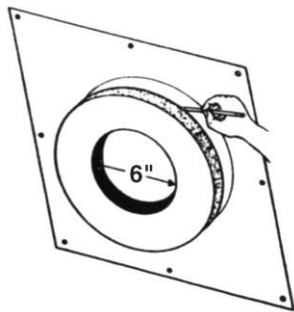

Figure 5: Thimble Length Adjustment
4. Insert the (thick wall) Thimble into the mounted Metal Base. Position Thimble firmly against chimney. The Thimble shall protrude at least 1/4 " beyond the Metal Base flange. If the Thimble protrudes more than 1/2" beyond round Metal Base flange (into room), mark Thimble using flange edge as a guide. (See Figure 5) Remove Thimble from Metal Base. Allow 1/4 " to 1/2 " additional length of Thimble beyond the marked line to protrude into the room. This additional length is your cutting line, and is **necessary** for the Thimble to be **firmly** held against the chimney. Using a handsaw, cut the excess portion of the thimble off. The use of a facemask is recommended as good practice while sawing Thimble.